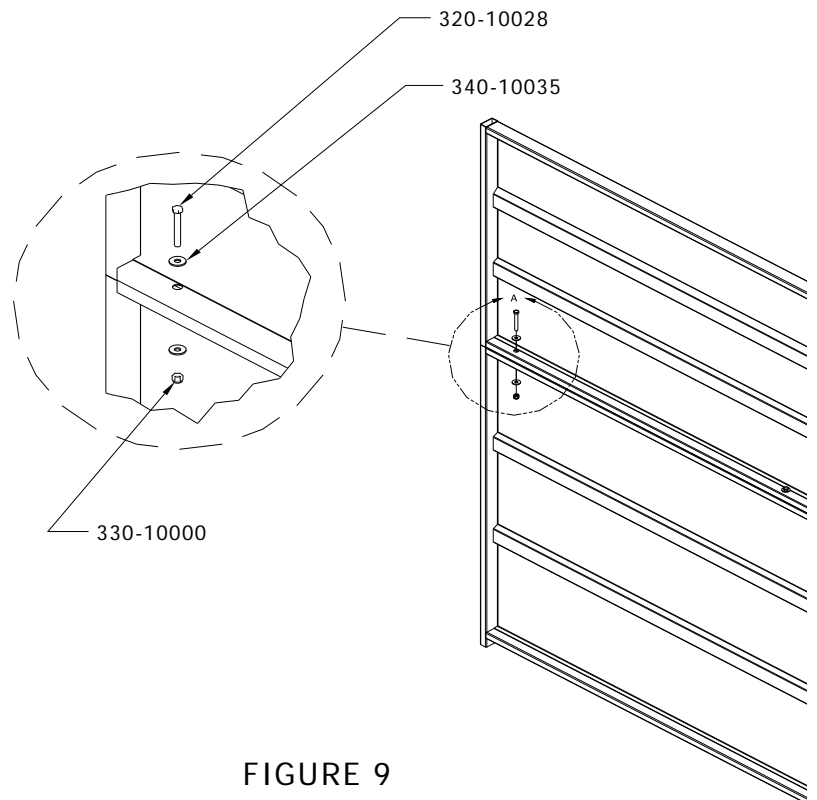

FIGURE 9
Secure the top and bottom panels, of end and side panels, together by placing (4) 3/8" x 2-3/4" hex bolts, (8) 3/8" washers and (4) 3/8" (see figure 9).
*Note: When securing open top panels to bottom panels, use (4) 3/8" x 1" elevator bolts, (4) 3/8 x 2" elevator bolts, (4) 3/8" washer and (4) 3/8" lock nuts. The flat head on the elevator bolt must be placed up through the holes on the bottom panel so that the washers and lock nuts are secured on the top panel.*